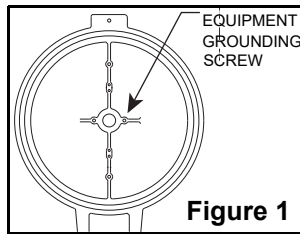

Figure 1
2. Ground tank assembly mount. If mount is not grounded through a metal raceway, such as metal conduit, a separate grounding conductor must be utilized. Attach this grounding conductor to the provided "EQUIPMENT GROUNDING SCREW". Location of the equipment grounding screw is marked in each mount except cone pendant mount. See Figure 1 for location of equipment grounding screw in cone pendant mount.